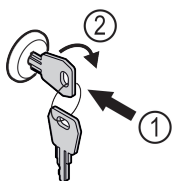

Fig. 171 Example illustration
- Insert key Fig. 171 (1).
- Turn key clockwise by 90° Fig. 171 (2).